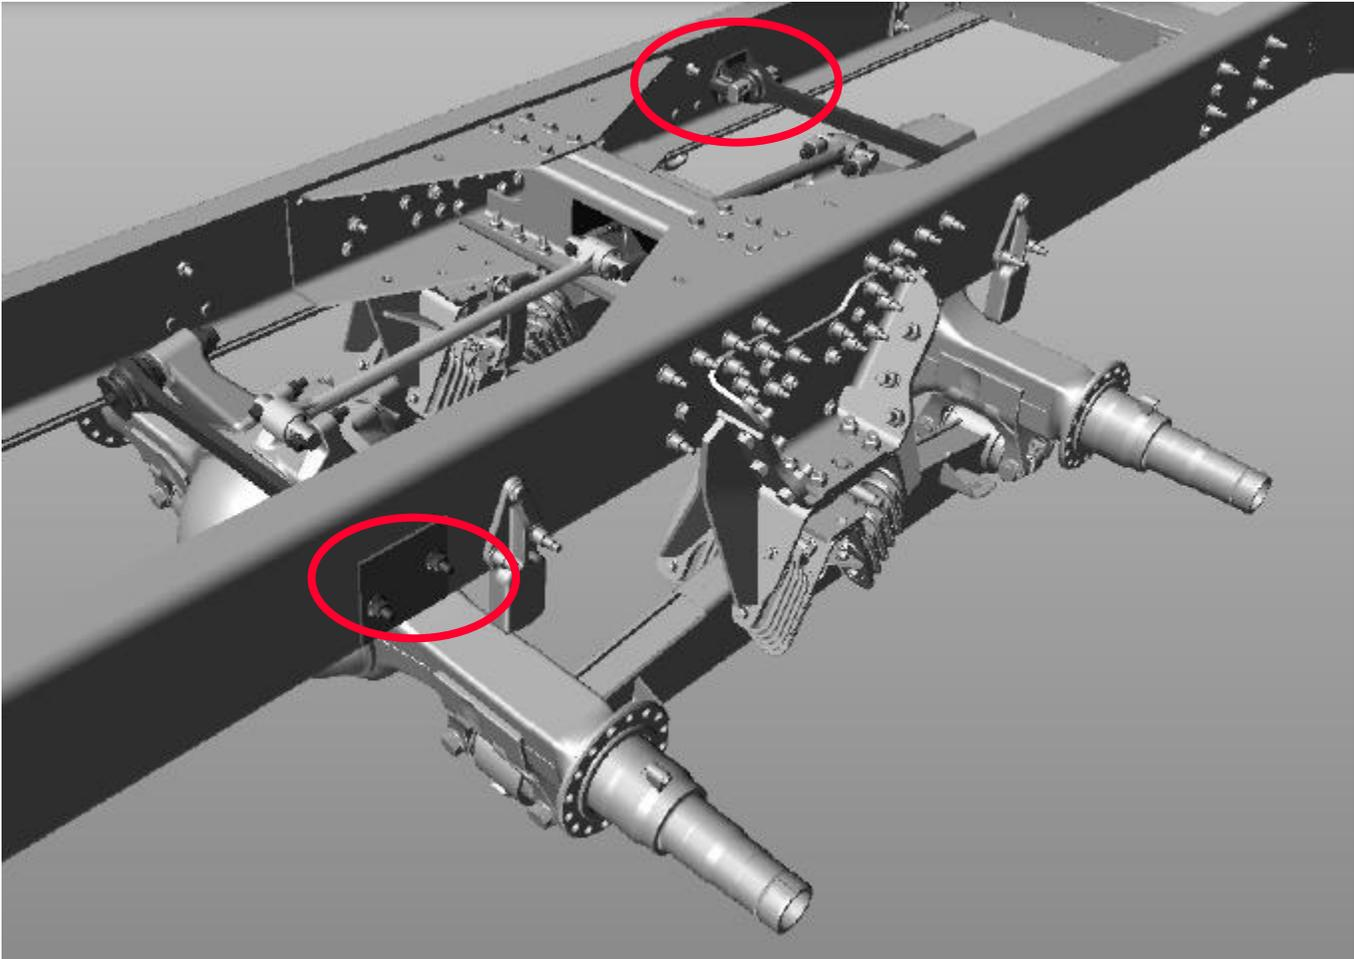

Figure 1
1. Locate the 2 nuts and bolts on each transverse torque rod, one on each side of the frame rail (see Figure 1).